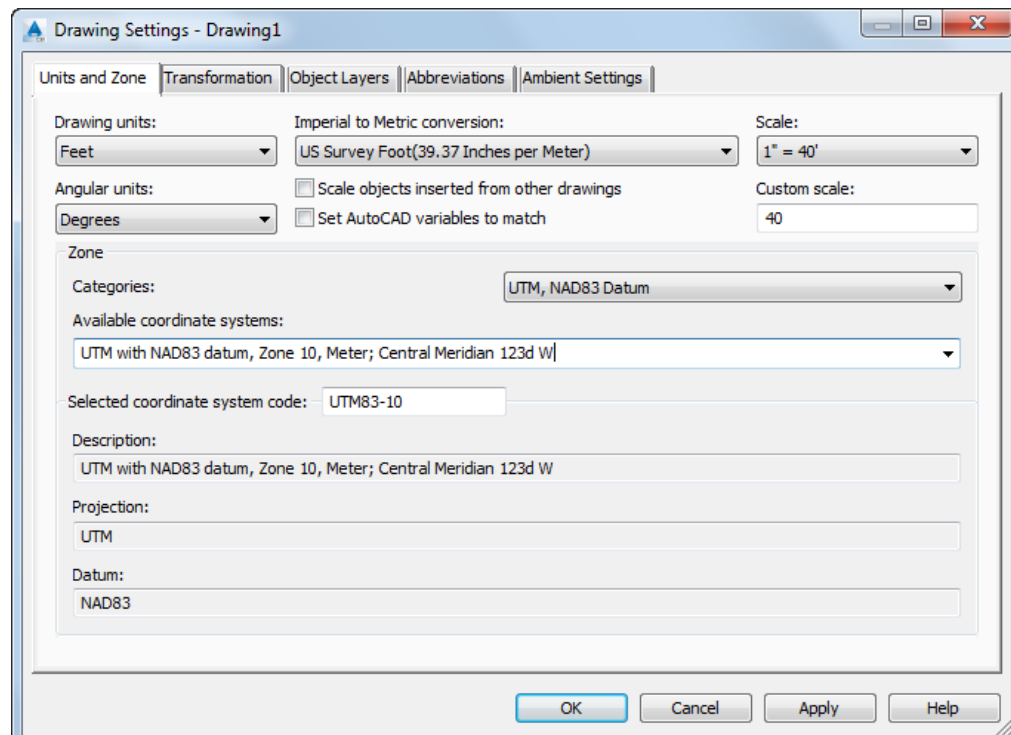

Figure 3-71 The settings in the **Units and Zone** tab of the **Drawing Settings - Drawing 1** dialog box
3. In the **Available coordinate systems** drop-down list, select the option **UTM with NAD83 datum, Zone 11, Meter; Central Meridian 117d W** and then choose the **Apply** button from the **Drawing Settings** dialog box. The drawing is set to UTM Zone 11 projection and the datum is set to NAD 83, refer to Figure 3-71.